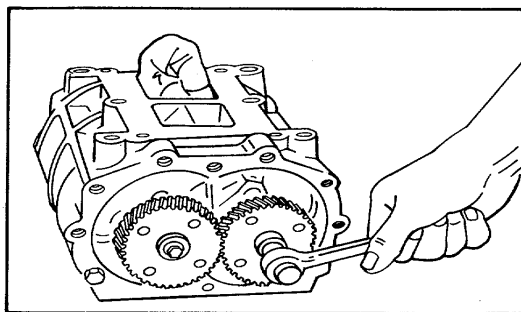

Figure 10. Installing Blower Rotor Gears
10. Wedge a clean cloth between the blower rotors. Use the gear-retaining bolts and plain washers to press the gears on the rotor shafts (Fig. 10). Turn the bolts uniformly until the gears are tight against the shoulders on the shafts.